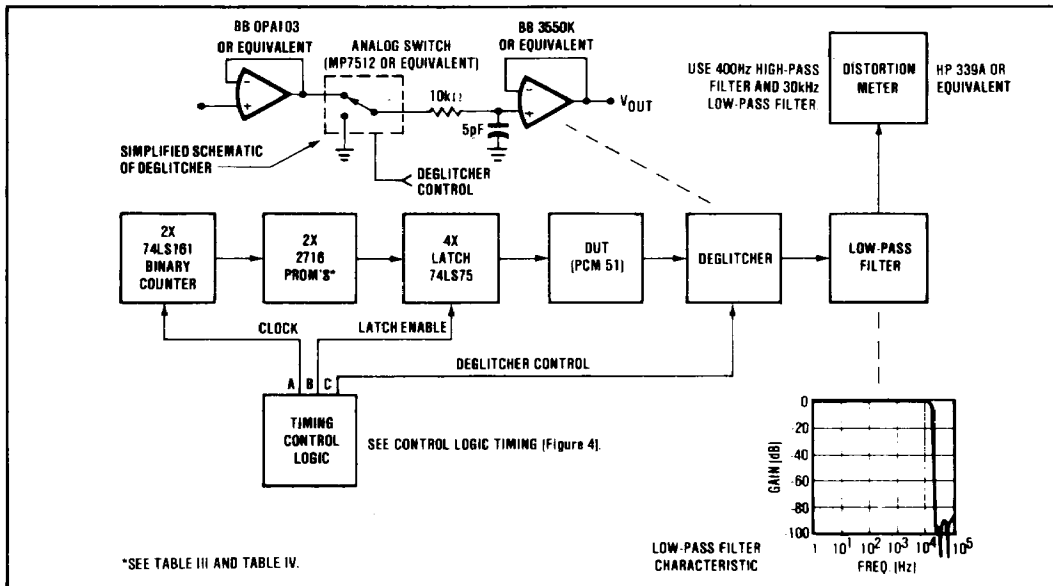
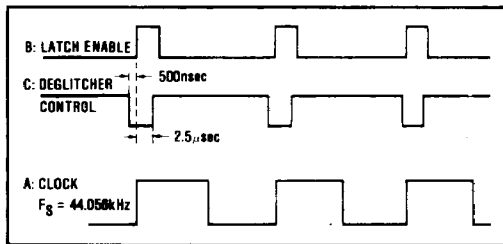

FIGURE 3. Block Diagram of Distortion Test Circuit.
FIGURE 4. Control Logic Timing for PCM51 Distortion Test Circuit.
- measurement circuit is shown in Figure 3. Burr-Brown calculates THD from the measured linearity errors using equation 2 in the section on "Total Harmonic Distortion", and specifies that the maximum THD measured with the circuit shown in Figure 3 will be less than the limits indicated.
The Total Harmonic Distortion (THD) is defined as the ratio of the square root of the sum of the squares of the value of the rms harmonics to the value of the rms fundamental and is expressed in percent or dB. A block diagram of the test circuit used to measure the THD of the PCM51 is shown in Figure 3. A timing diagram for the control logic is shown in Figure 4. The digital input code stored in the PROM as well as the output obtained from an ideal PCM51, the value of an ideal sine wave, and the inherent quantization error are given in Tables III and IV. If we assume that the error due to the test circuit is negligible, then the rms value of the PCM51 error referred to the input can be shown to be
Table III shows the hex code loaded into the PROM's of the Distortion Test Circuit, Figure 3, for 14-bit values and Table IV shows the hex code for 16-bit values. Values